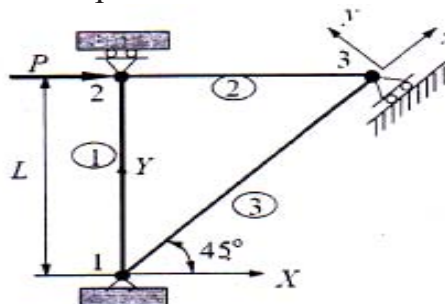

Figure 1
b) For the plane truss as shown in figure 1, $P = 1000\text{KN}$, $L = 1\text{m}$, $E = 210\text{ GPa}$, $A = 6.0 \times 10^{-4}\text{ m}^2$ for element 1 and 2, $A = 6\sqrt{2} \times 10^{-4}\text{ m}^2$ for element 3. Determine displacement and reaction solutions. [10]